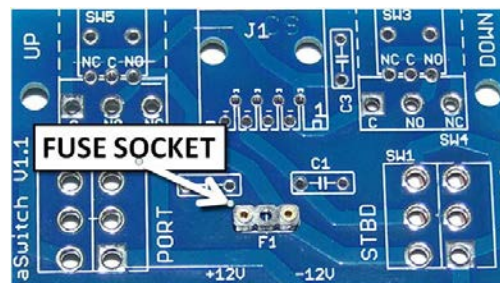

Figure 3.3-1: Fuse Socket Installed at the Location Labeled "F1"
- Locate the **fuse socket**. Place its two pins through the holes at the location on the board labeled "F1," as shown in Figure 3.3-1 (remember, **all** components go on the side of the PCB that has the white lettering). Use a small piece of electrical tape to hold the socket in place. Flip the board over and place it on a tabletop. Melt only about 1/4" of solder into each connection, let them cool for a few seconds before moving anything, and make sure that there are no solder bridges between the connections. (Remove excess solder if needed by touching the solder bridge briefly with a clean, hot, soldering iron tip.)